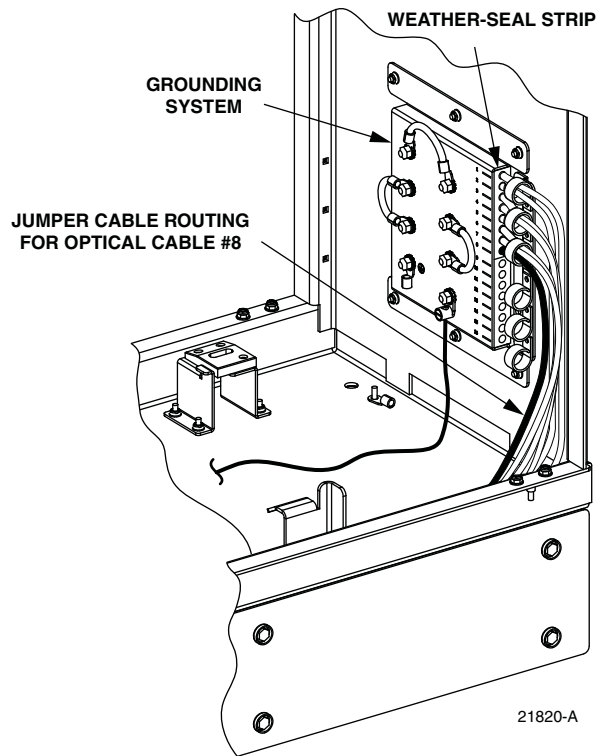

Figure 23. Cable Grounding System - Interior View
19. Locate the weather-seal strip attached to the right side of the cabinet grounding system as shown in Figure 23.